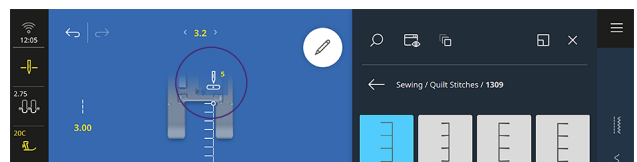

Fig. 8
3. Move the needle position to the right (5) using the right needle position buttons located under the Multi-function knobs (Fig. 8).